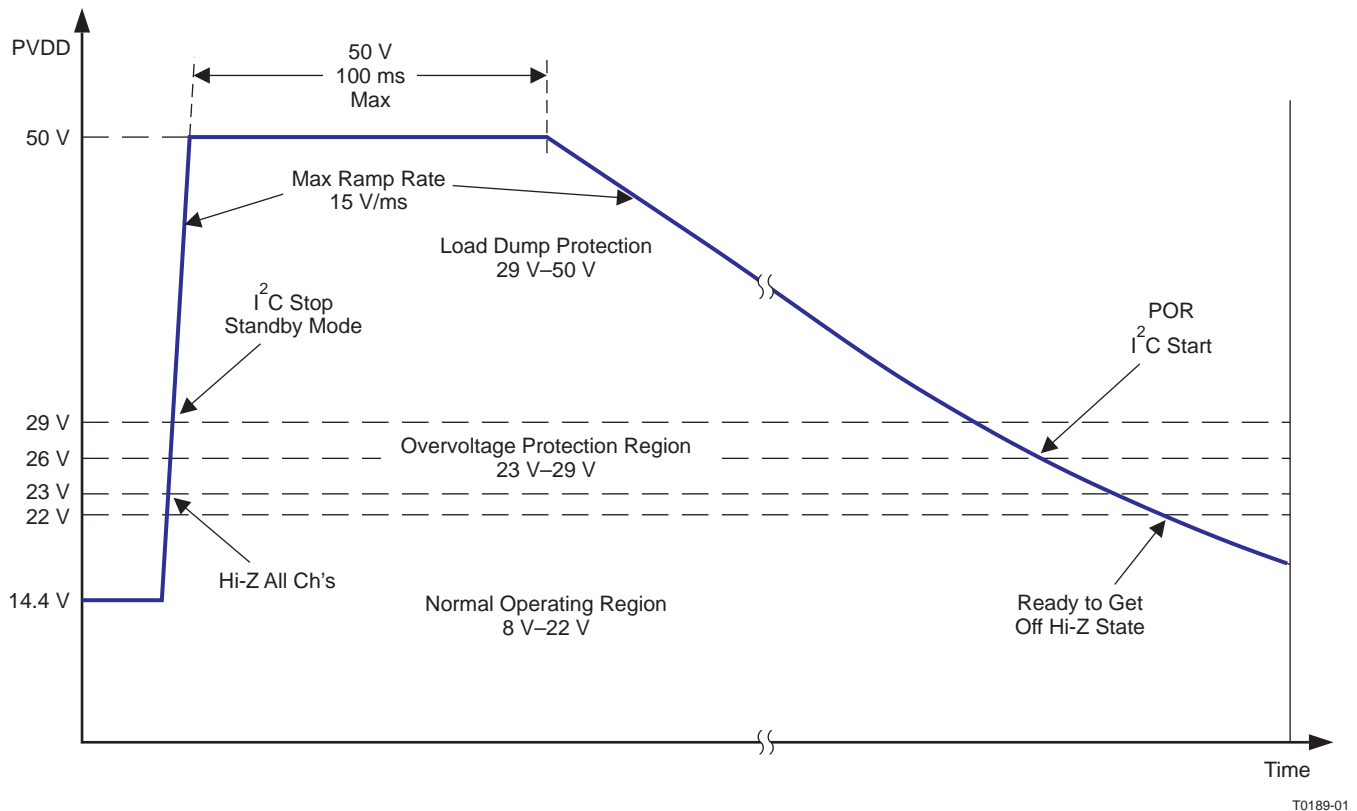

Figure 15. Voltage Operating Regions With Load Dump Transition Defined
6. **Undervoltage (UV) and Power-on-Reset (POR)**—The undervoltage (UV) protection detects low voltages on PVDD, AVDD, and CP. In the event of an undervoltage, the **FAULT** pin is asserted and the I²C register is updated, depending on which voltage caused the event. Power-on-reset (POR) occurs when PVDD drops low enough. A POR event causes the I²C to go into a high-impedance state. After the device recovers from the POR event, the device must be re-initialized via I²C.
7. **Overvoltage (OV) and Load Dump**—The OV protection detects high voltages on PVDD. If PVDD reaches the overvoltage threshold, the **FAULT** pin is asserted and the I²C register is updated. If the voltage increases beyond the load dump threshold of 29 Vdc, the device shuts down and must be restarted once the voltage returns to a safe value. After the device recovers from the \neq load dump event, the device must be re-initialized via I²C. The TAS5414A and TAS5424A can withstand 50-V load-dump voltage spikes (see Figure 15). Also depicted in this graph are the voltage thresholds for normal operation region, overvoltage operation region, and load-dump protection region. Figure 13 shows the regions of operating voltage and the profile of the load dump event. Battery charger voltages from 25 V to 35 V can be withstood for up to 1 hour.